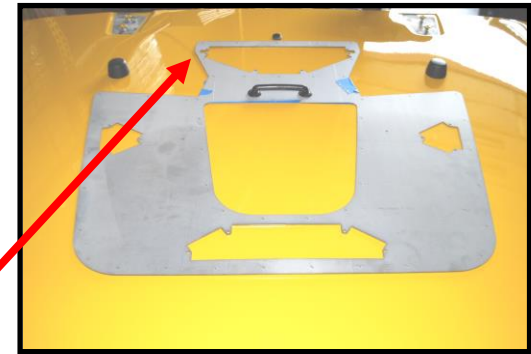

Figure 2
Step 5 – Using 3/16” Bit, drill one hole through the template and hood at one corner, as shown in (Figure 2). Install and tighten the supplied 10-32 screw and nut. Then drill a second hole in the opposite corner of template and install and tighten supplied 10-32 screw and nut. This will ensure template stays in place while drilling and cutting.